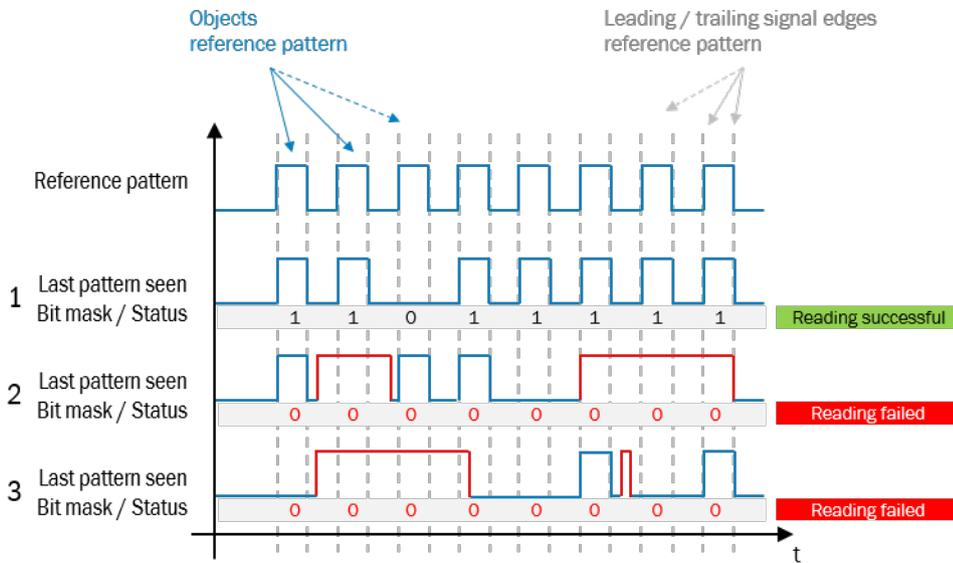

Figure 16: Width evaluation (direct object detection) signal schema
- figure 16 Shows an example of how read-in signals are evaluated in reference to the reference pattern in **Width** evaluation mode: